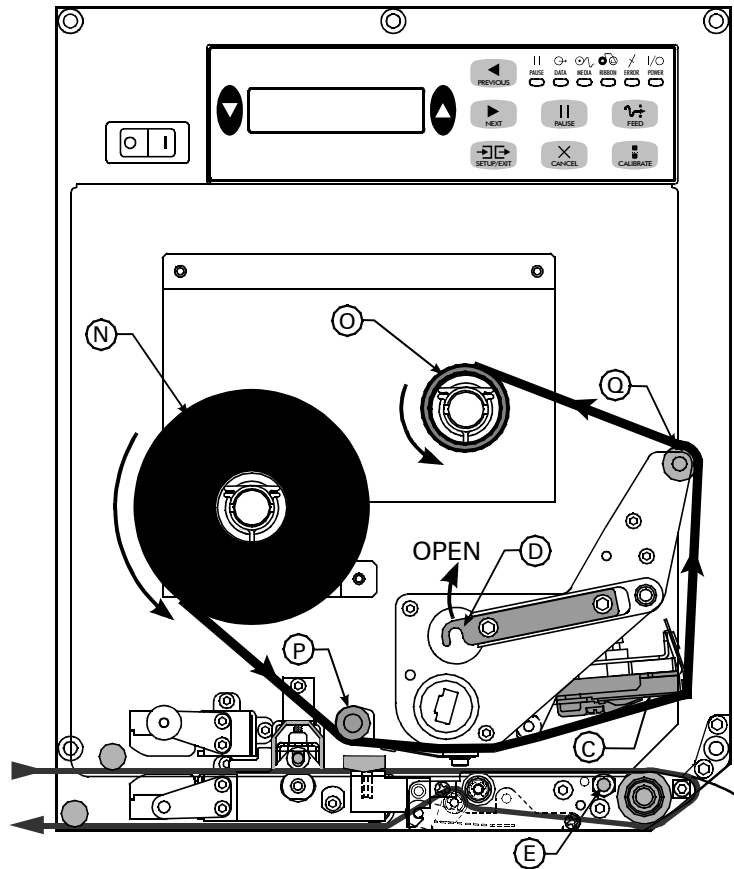
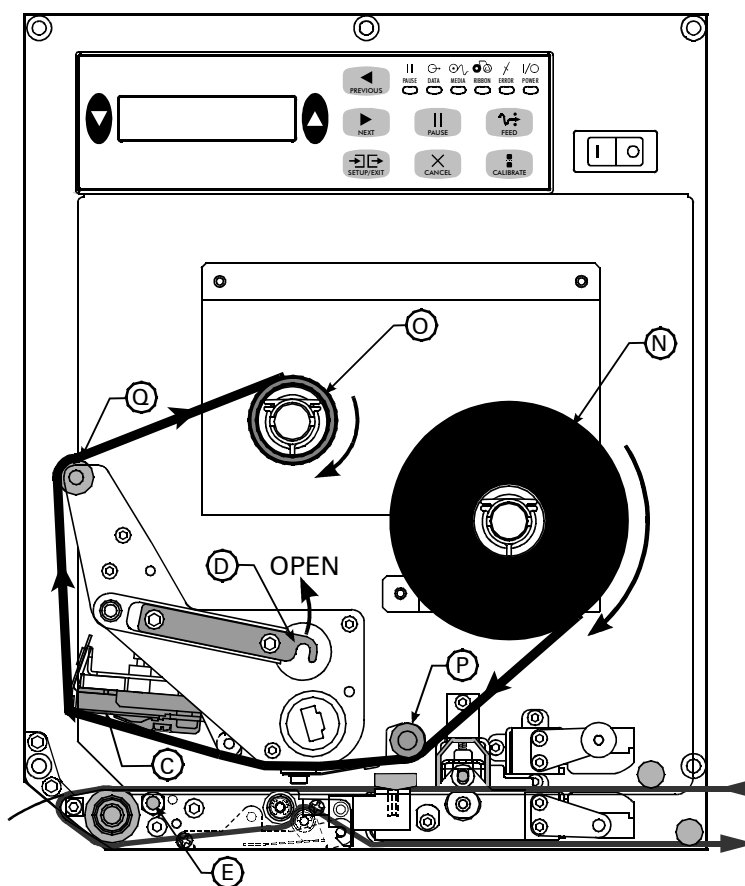

Figure 4. Ribbon Loading (Right-Hand Units)
Figure 5. Ribbon Loading (Left-Hand Units)
To load ribbon, refer to Figure 4 on page 12 (for right-hand units) or Figure 5 on page 13 (for left-hand units).
1. Push the ribbon roll onto the supply spindle (N) as far as it will go, so the ribbon feeds as shown in Figure 4 on page 12.
2. Install an empty ribbon core onto the ribbon take-up spindle (O).
3. Open the printhead assembly (C) by unlatching the print-head lock lever (D) from the locking pin (E).
4. Thread the ribbon below the lower ribbon guide roller (P), under the printhead assembly (C), and up and over the upper ribbon guide roller (Q) as shown in Figure 4. *Use caution not to crease or wrinkle the ribbon!*
5. Attach the ribbon to the take-up spindle core (use a label if needed) and wind for several turns in the direction shown in Figure 4.
6. Close the printhead assembly (C) by latching the printhead lock lever (D) onto the locking pin (E).
1. Push the ribbon roll onto the supply spindle (N) as far as it will go, so the ribbon feeds as shown in Figure 5 on page 13.
4. Thread the ribbon below the lower ribbon guide roller (P), under the printhead assembly (C), and up and over the upper ribbon guide roller (Q) as shown in Figure 5. *Use caution not to crease or wrinkle the ribbon!*
5. Attach the ribbon to the take-up spindle core (use a label if needed) and wind for several turns in the direction shown in Figure 5.